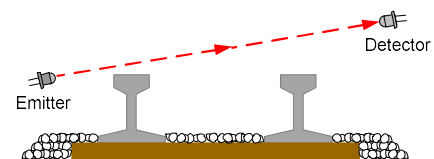

Figure 8a
With this sensor mode and physical arrangement a train is detected when the infrared (IR) beam is broken by the train. The IR components should be located across the track as shown in Figure 8a and 8b. The detector (dark lens, blue and black wires) should be mounted with a slight downward angle in order to minimize the possibility of false triggering from visible light sources; this is illustrated in Figure 8a. We would also recommend that you angle the emitter and detector across the track as shown in Figure 8b. This will minimize false "clear" situations due to the space between rolling stock. You can bend the IR emitter and detector components IF you are VERY careful and, preferably, use a pair of